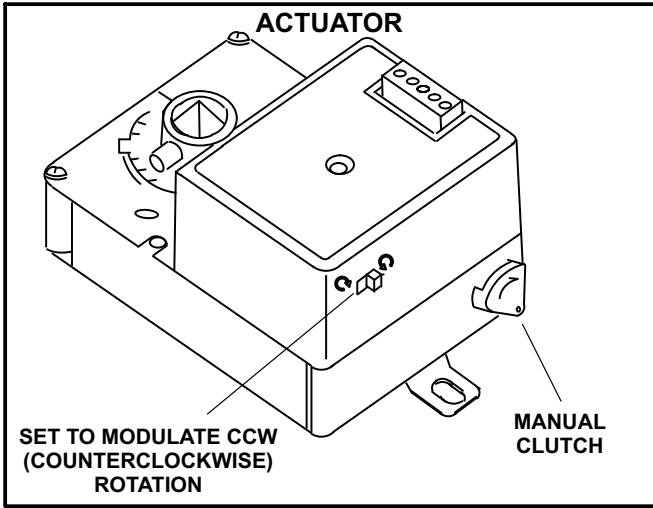

FIGURE 10
- 3- Locate the actuator clutch. See figure 10.
- 5- Move rotation direction switch on actuator to the counterclockwise rotation position. See figure 10.